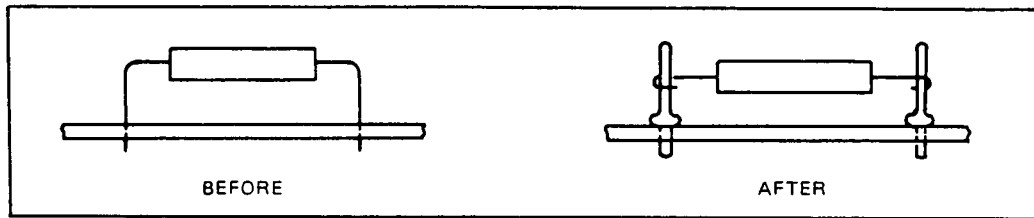

Figure 1-1. Installing Terminal Posts.
2. Remove left side of A1C528 from the board and install a terminal post Part No. 0360-1716 in the resulting hole in the board. Reconnect A1C528 to the post (see Figure 1-1).
3. Lift the end of R538 closest to the rear of the instrument and install a terminal post (Part No. 0360-1716) in the board. Reconnect R538 to the post (see Figure 1-1).
- a. Remove A3R379 and install terminal posts (Part No. 0360-1716) in the board at both ends (see Figure 1-1).
13. Remove A3R372 and install terminal posts (Part No. 0360-1716) in the board at both ends (see Figure 1-1).
15. Check for a 30 or 33 pF capacitor across A3R300. If none is present, remove R300 and install terminal posts (Part No. 0360-1716) in the board at both ends (see Figure 1-1).